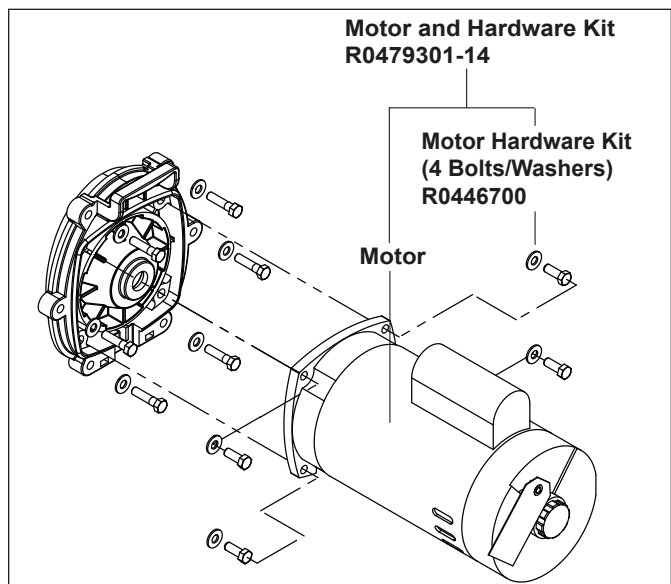

Figure 6. Motor and Attaching Hardware Kits
1. Refer to Figure 6 and the associated parts list to identify the parts included in each replacement kit.
- Note the alignment of the backplate to the motor. (See Figure 6.) Place the backplate motor assembly o-ring side down, unscrew the four (4) 9/16" screws, and remove the motor.
- Secure the motor to the backplate with the four (4) bolts and washers. (See Figure 6.) Tighten the screws to 15 ft-lbs of torque.
- Slide the diffuser into the inside centric hole of the pump body. While supporting the motor, start two (2) screws on opposite sides. (This will hold the motor in position while you start the other four (4) screws.)
- Tighten the screws lightly in a crossing "X" pattern using a 9/16" wrench. Start with the inner (middle) two (2) and then work on the outer (top and bottom) four (4) to draw the backplate to the body evenly. Once all the screws are snug, tighten in the same order to 10 ft-lbs of torque.